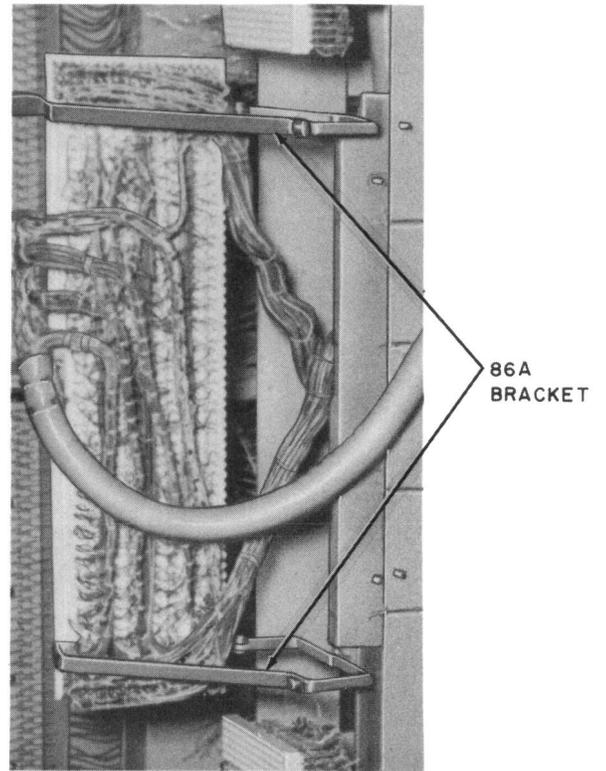

Fig. 5—86A Bracket Attached to 302A3 Mounting Bracket
**Note:** The 302-type 2 connectors [which are manufacture discontinued (Mfr Disc)] as well as the 302-type 3 and 308-type 2 connectors are mounted on double-sided protector frames and must be hinged open (Fig. 5 and 6) to expose the wiring side of the connector. Two 86A brackets can be installed on the 302-types 2 and 3 connectors to hold them in the opened position. The 308-type 2 connector is held in the opened position by utilizing plastic cable ties or lacing twine.